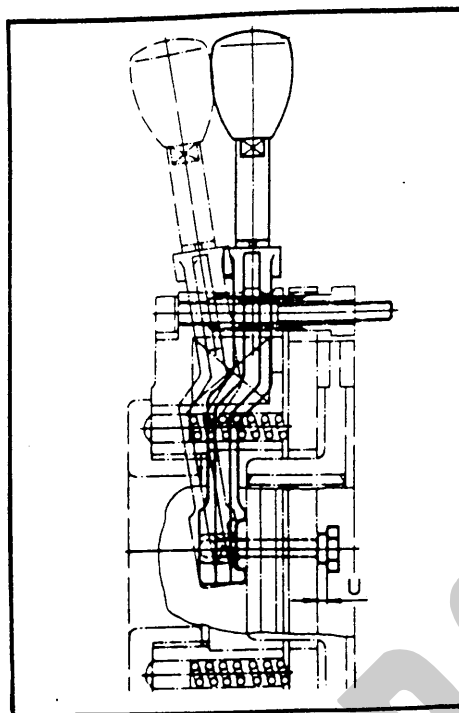

FIGURE 3
9. If air gap adjustment is necessary, loosen bolts (9A), rotate the adjustment tubes (8) approximately $\frac{1}{4}$ turn, retighten bolts (9A), and measure air gap. If air gap is not within tolerance, repeat procedure.
10. Set the hand release gap (Dimension "U" Figure 3) to the value indicated in Table 3 by tightening nuts (13H). Once set the nut is locked with factory applied thread locking compound. Any change in this setting could interfere with the safe operation of the brake.